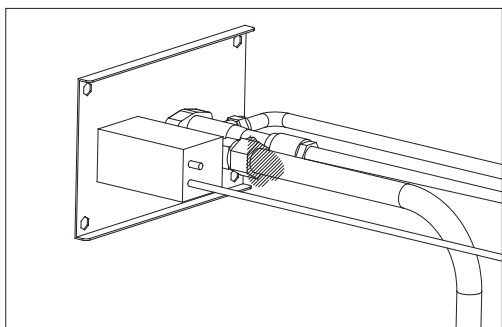
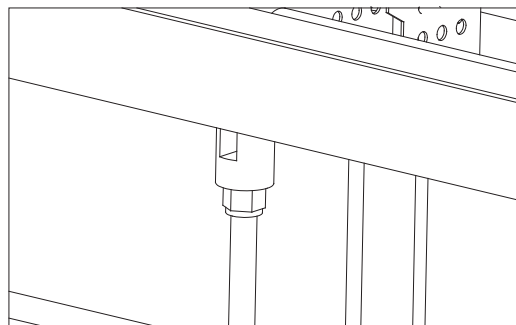

Figure 11
Figure 12
3. Apply several drops of solution where gas valve attaches to bellows (see Figure 10) . where gas valve attaches to hose (see figure 11), and where inlet tube attaches to billows (see Figure 12). If NO bubbles appear, the connection are secure .If bubbles appear, the connection has the leak, disconnect, reconnect, perform another leak check. If you continue to see bubbles after several attempts, the part is defective and should replace the part.